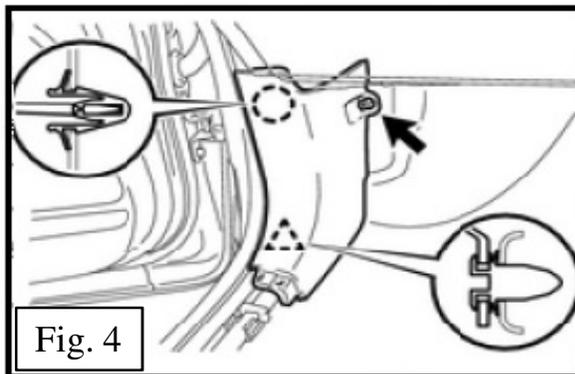

Fig. 4
6. Remove the kick panel by removing the fastener and then gently pry the kick panel plate up and away from the vehicle using a trim panel removal tool (Fig.4).